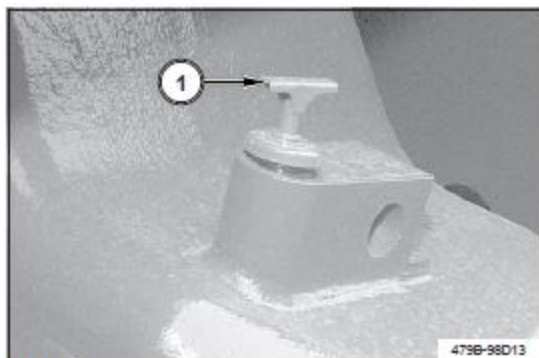

FIG. 3
FIG. 3: Oil level must be at the level shown on the dipstick (1). Add oil as needed. See the Specification section for the correct type and quantity of lubricant.